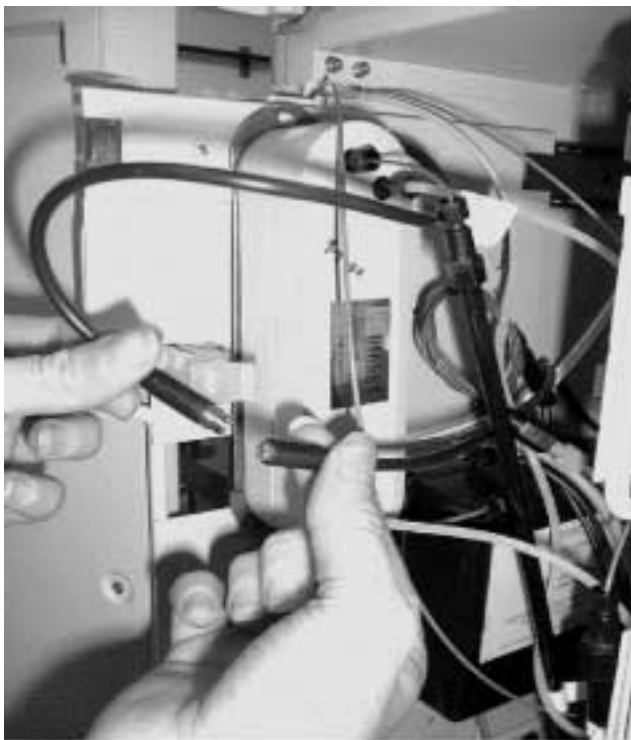

Figure 8. Disconnecting the SRS Power Source Cable from the SRS Cable
- d. Disconnect the SRS power source cable from the SRS cable (see Figure 8). You may remove the cable from the system, or leave it for future use.